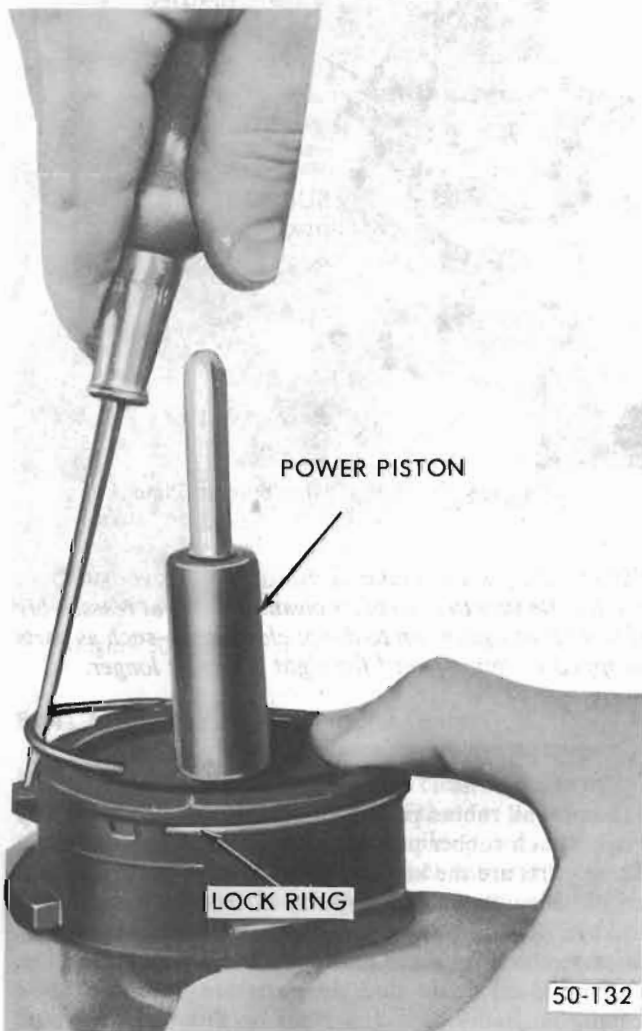

Figure 50-104 Removing Lock Ring from Power Piston
3. Remove lock ring from power piston by prying one end out from under large divided locking lug and then proceed to pull ring from under other two locking lugs on power piston. See Figure 50-104.